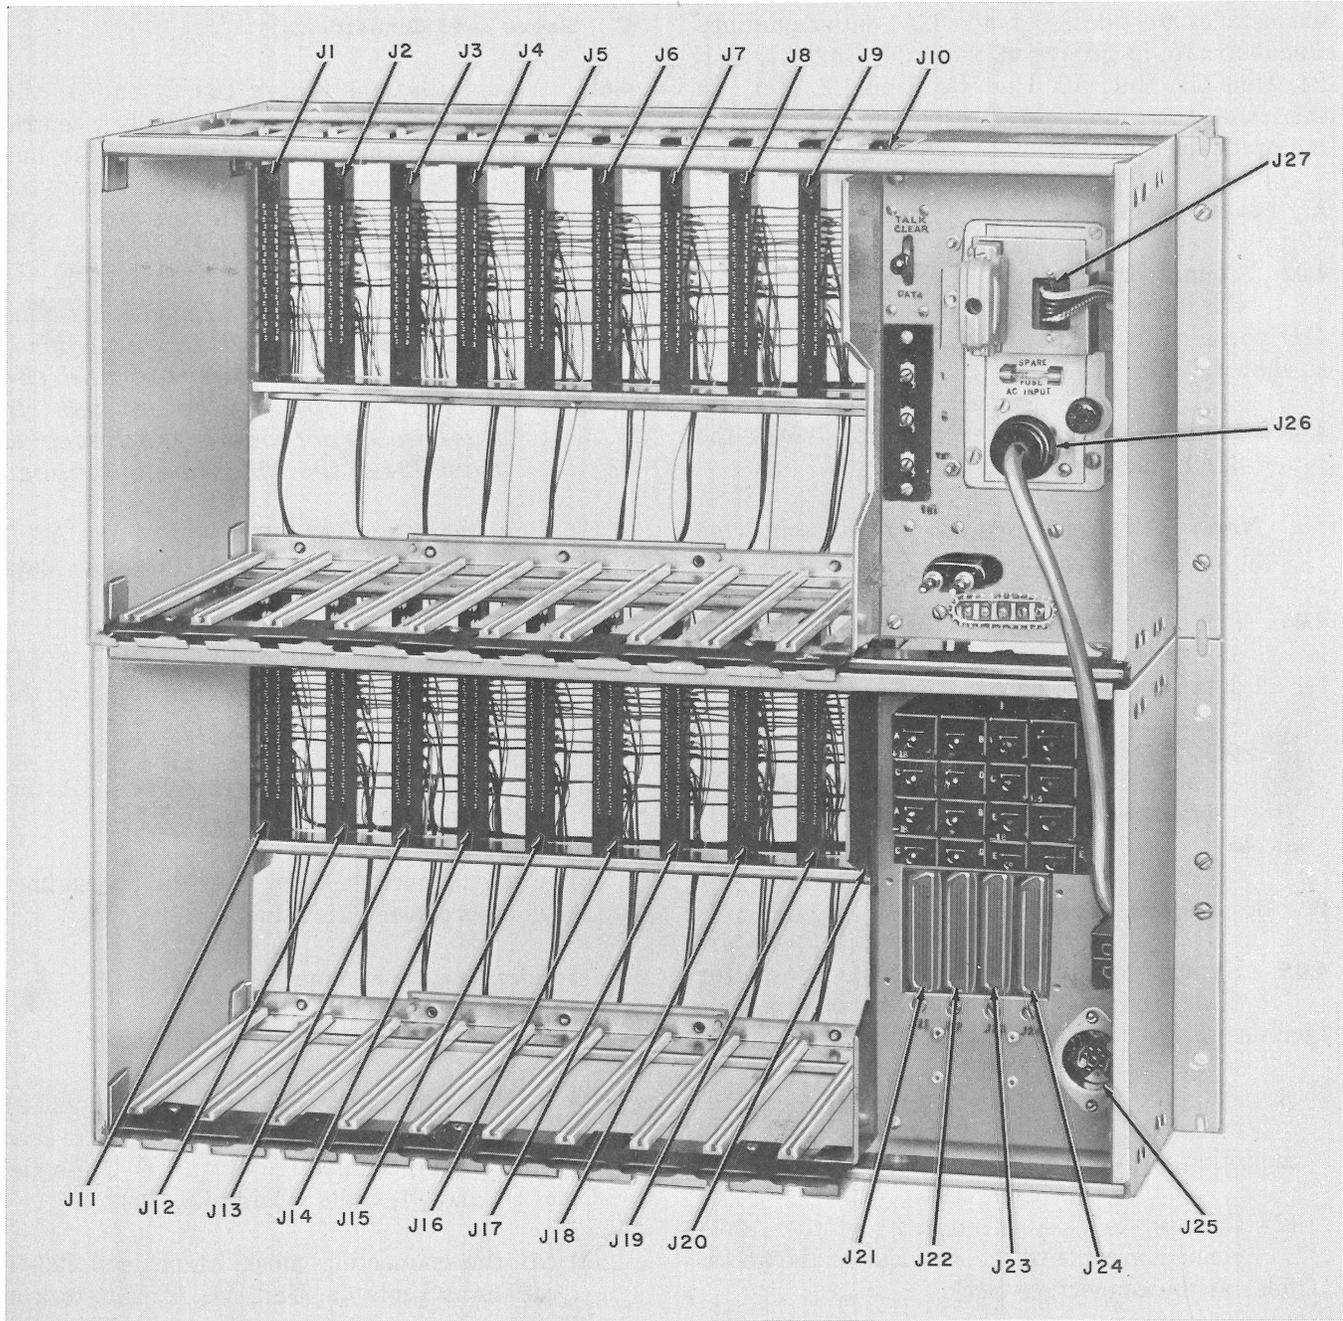

Fig. 6—32A1 Data Mounting—Identification of Connectors
4.02 Connect the power cord assembly (J26) from the lower data mounting nest to P1 on the 41D power unit (on the upper data mounting nest) as shown in Fig. 6.